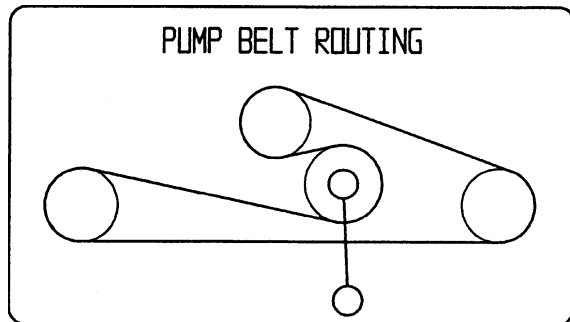

Figure 42
1. Pull spring loaded idler down and remove traction belt from the engine and hydro pump pulleys (Fig. 42). Remove belt between pulleys.
2. Install new belt around engine and hydro pump pulleys (Fig. 42).
3. Pull spring loaded idler down and align below traction belt. Release pressure on spring loaded idler (Fig. 42).